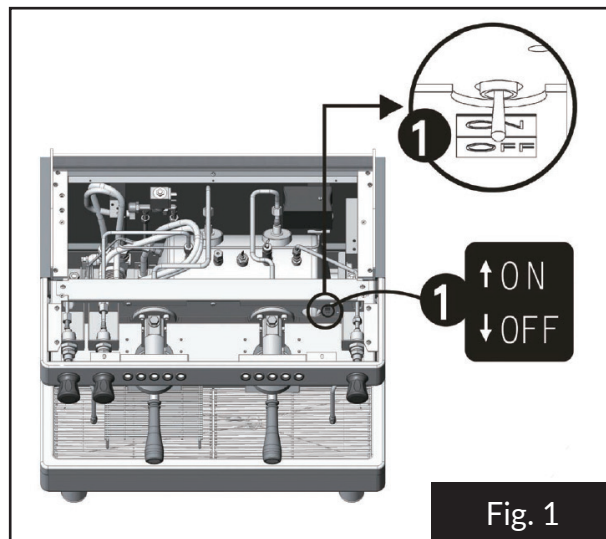

Fig. 1
1. To program, turn the output volume setup switch ON (Fig. 1).